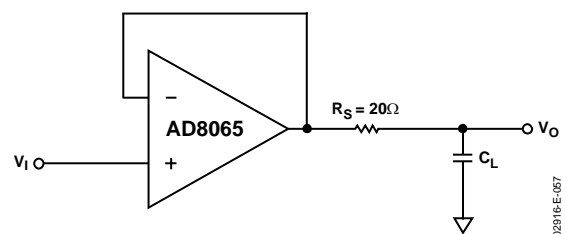

Figure 57. Output Isolation Resistor
- As shown in Figure 57, put a small value resistor (R_S) in series with the output to isolate the load capacitor from the amp's output stage. A good value to choose is 20 Ω (see Figure 10).